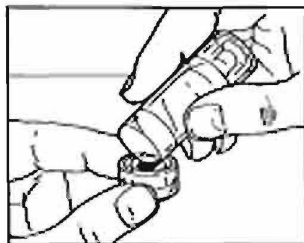

Figure 23. Depositing Sediment on Cap.
- d. Remove cap and hold it on table with one hand. Holding tube at an angle above the cap, strike the edge of the tube sharply against the near side of the plateau in the cap (Figure 23). This will release the suspended sediment from the reservoir and will deposit a drop for examination on the optical surface of the cap. The excess will drain into the surrounding well.